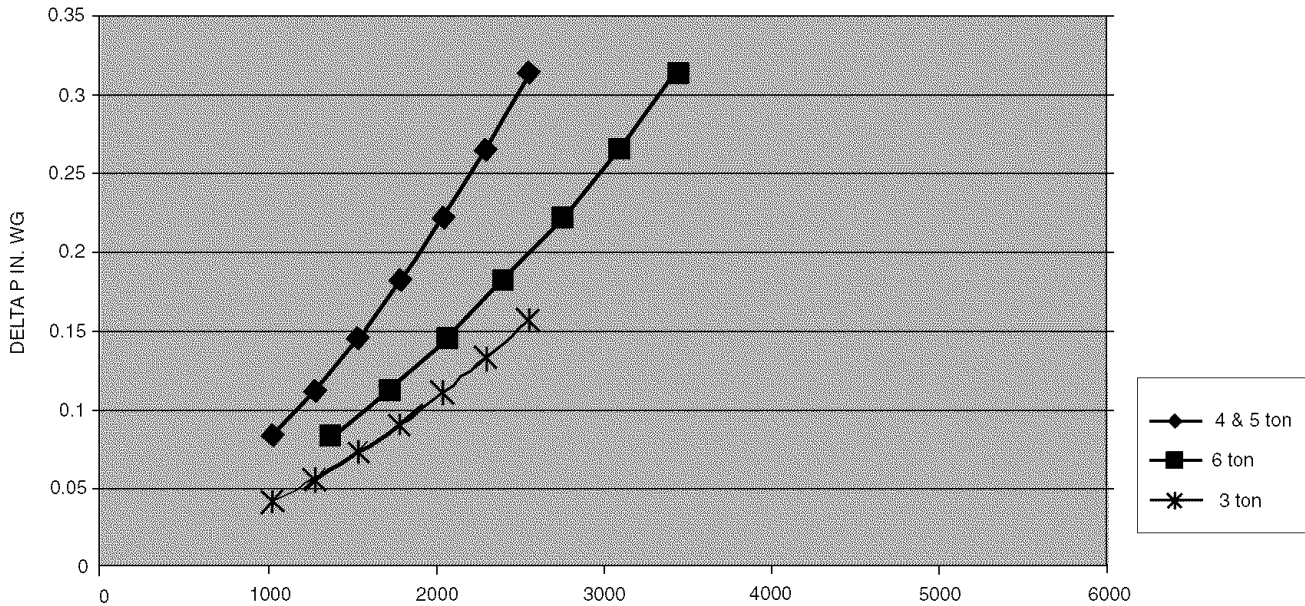

Fig. 44 — Humidi-MiZer™ Adaptive Dehumidification System Static Pressure Drop (in. wg)
Tables 7 and 8 show fan rpm at motor pulley settings. Tables 9 and 10 show maximum amp draw of belt-drive motor. Table 11 shows sound data. Refer to Tables 12-29 for performance data. See Table 30 for accessory static pressure drop. See Fig. 44 for the Humidi-MiZer™ system static pressure drops.
1. Values include losses for filters, unit casing, and wet coils. See Table 30 and Fig. 44 for accessory/FIOP static pressure information.